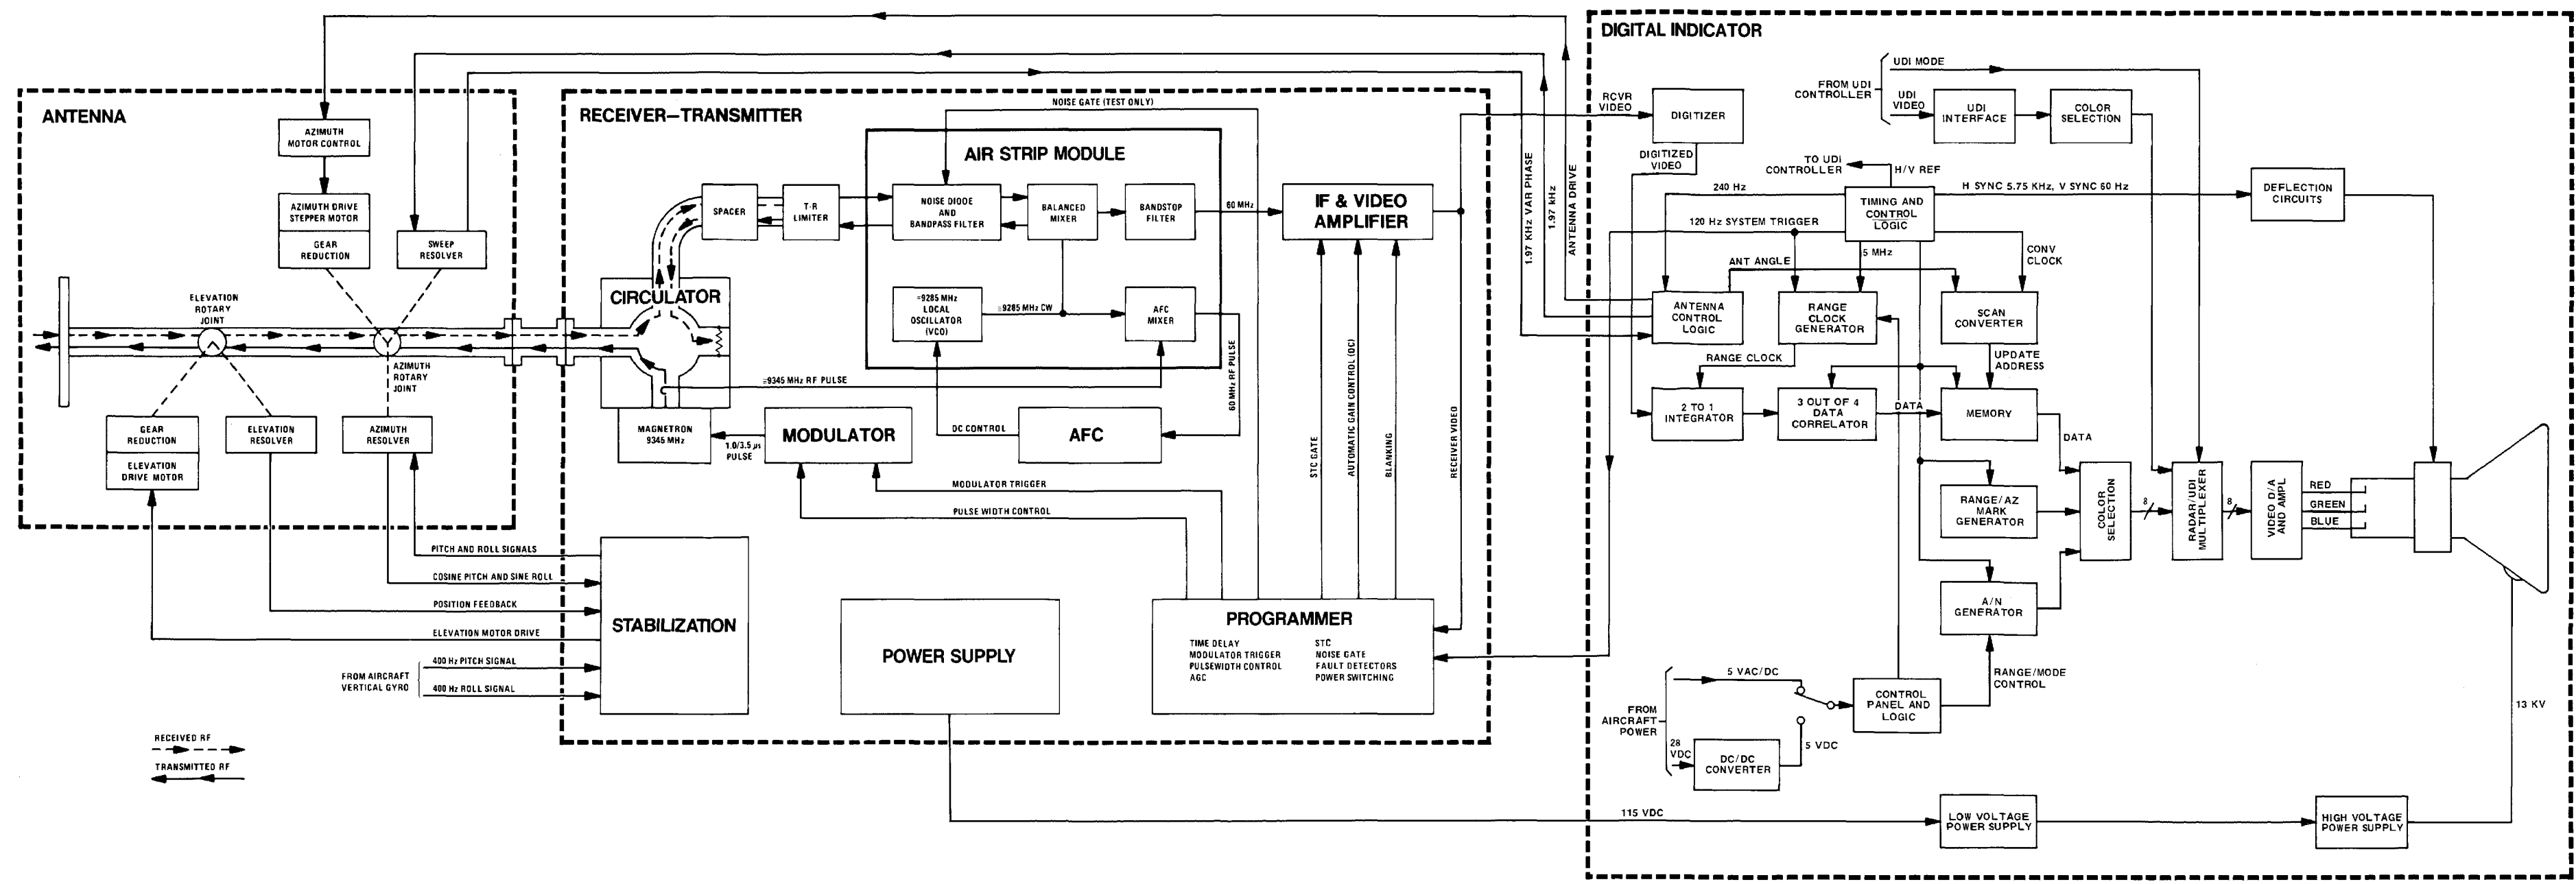

Figure 2-1. System Block Diagram 2-3/4
In this section the basic operating principles of the PRIMUS-400SL ColoRadar system are described with reference to a block diagram shown in Figure 2-1. The radar system consists of the Receiver-Transmitter (R-T), the Digital Indicator (DI), and the Antenna Pedestal (AP).